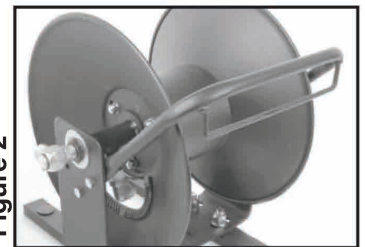

Figure 2
2. Attach hose layering bracket to mounting base, requires 4 (#4) bolts and 4 small lock nuts / washers. See Figure 2, also refer to Figure A illustration on page 1.